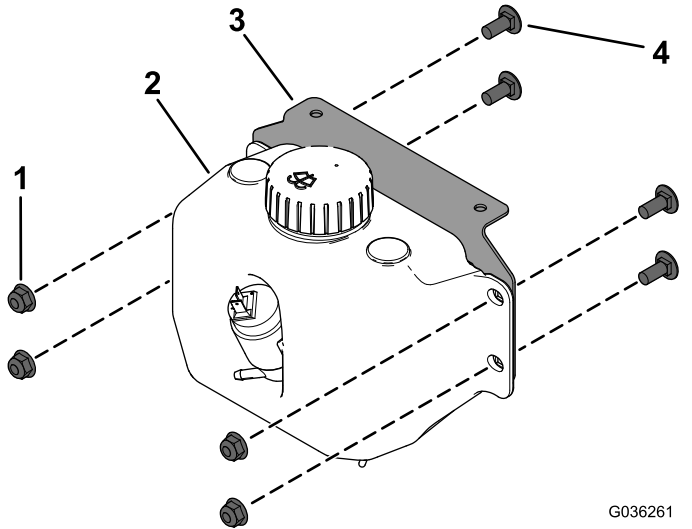

Figure 2
1. Install the washer-fluid tank to the washer bottle bracket mount with the 4 carriage bolts (5/16 x 3/4 inch) and 4 locknuts (5/16 inch) as shown in Figure 2.